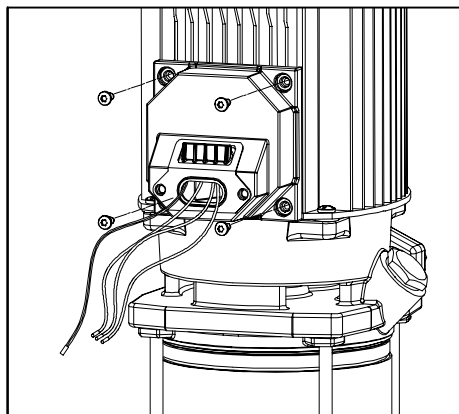

Figure 3
3.3.1) Motor Adapter (figure 3):